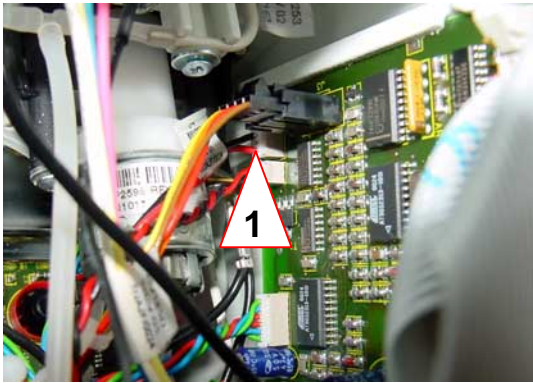

Fig. 3-52 Fan cable connection at the Pump board
5. Pull off the fan cable from the Pump board (see Fig. 3-52, 1).